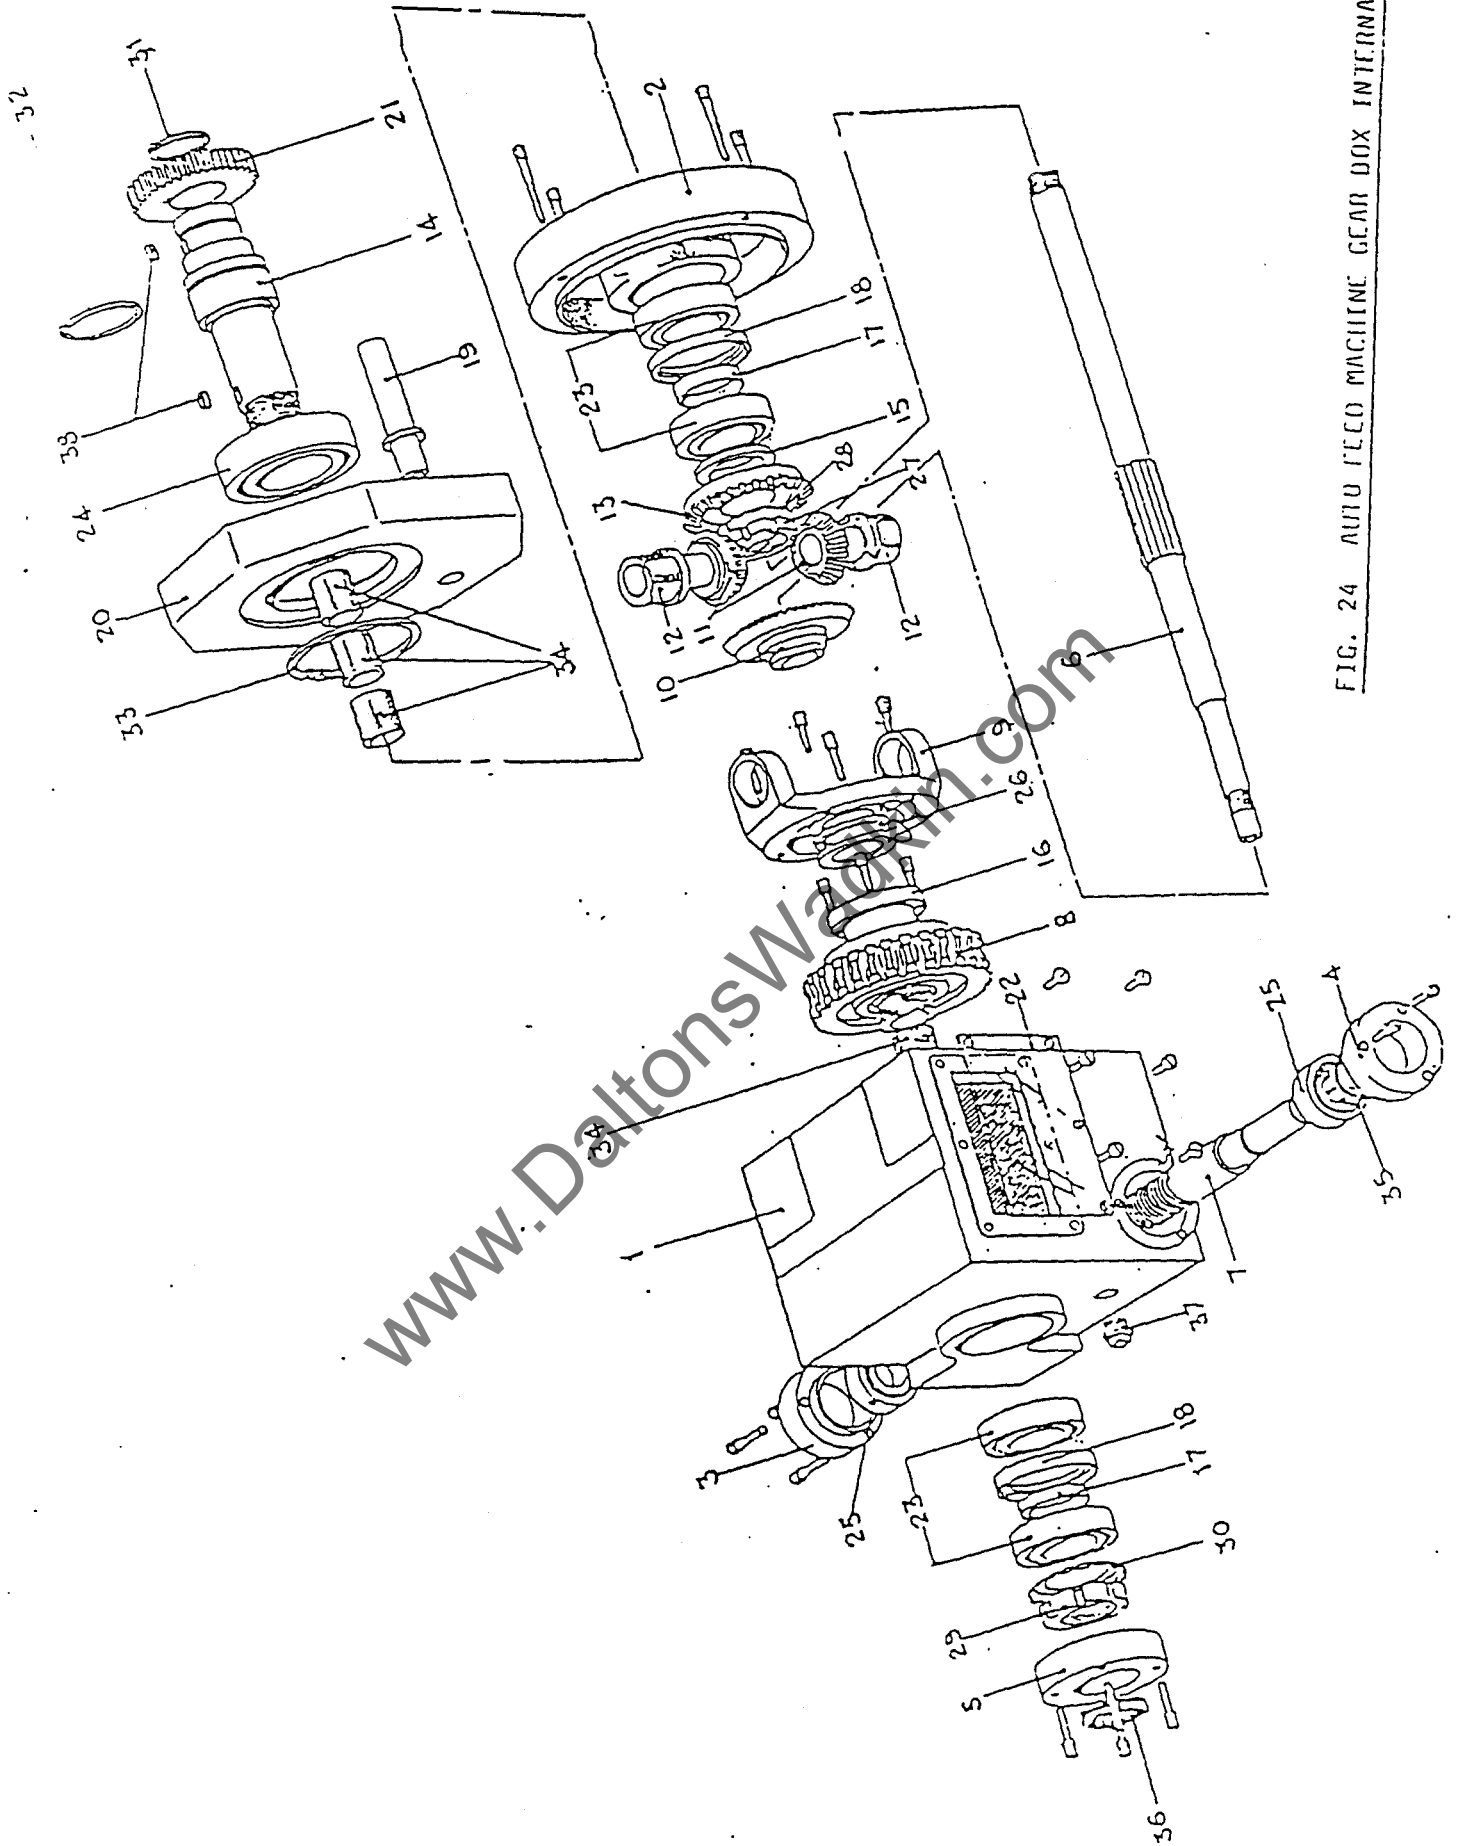

FIG. 24 AUTO FEED MACHINE GEAR BOX INTERNAL.
8.9 AUTO FEED MACHINE INTERNAL GEAR BOX (See Fig. 24)